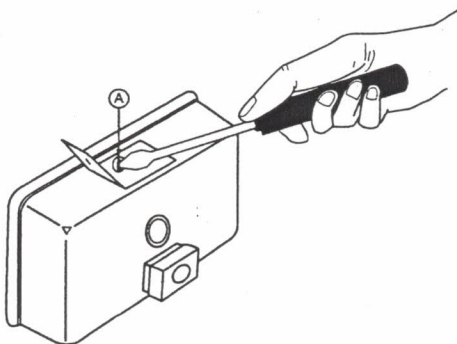

FIGURE 1
2. Using screwdriver as shown (see Figure 1), loosen locking-screw (A).